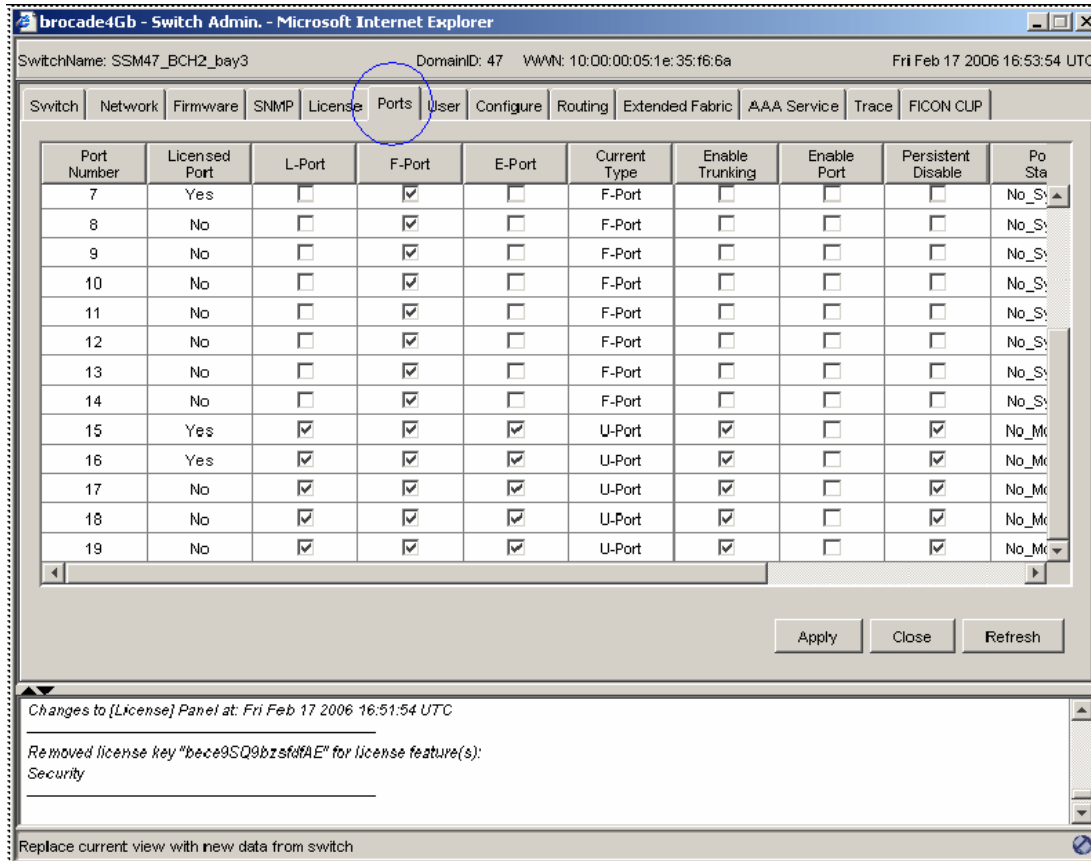

Figure 5-11 Brocade 4Gb Switch Admin window
12. Go to the Ports tab and ensure that the proper ports are licensed and have been enabled (see Figure 5-11).